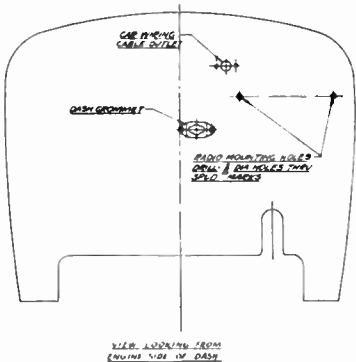

FIGURE 1
2. Drill two $\frac{1}{8}$ " holes in the dash. Refer to Figure 1 for the location of the center punch marks on the dash. After drilling, remove the paint from the dash for a distance of $\frac{1}{4}$ " around the holes to insure good ground contact.